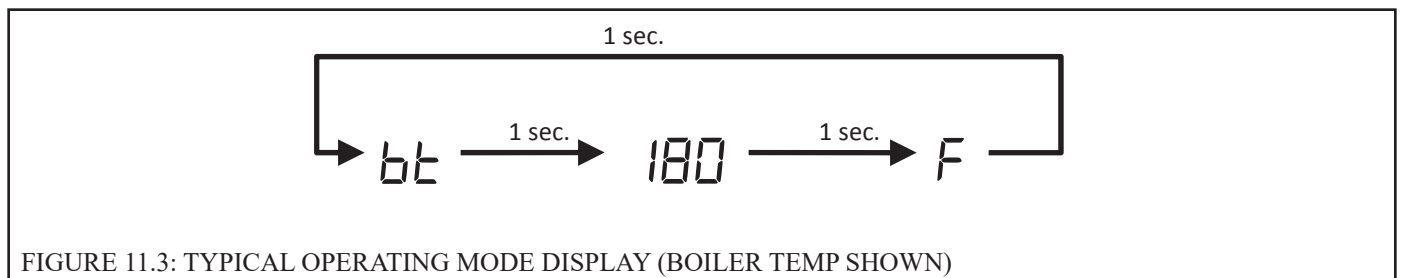

FIGURE 11.3: TYPICAL OPERATING MODE DISPLAY (BOILER TEMP SHOWN)
- 2) Operating Mode - Provides additional information about the current status of the boiler. Operating mode is entered by pressing the **I** button shown in Figure 11.0. When this button is first pressed in Status mode, the display will alternately display bE and the current boiler water temperature as shown in Figure 11.3. Pressing the **I** button again will display the next line item shown in Table 11.2. In the same manner it is possible to advance through all of the “parameters” shown in Table 11.2. To return to Status mode, press **I** repeatedly until $5\text{E}9$ once again appears on the display. Alternatively, the control will return to Status mode if no key is touched for 30 minutes.
NOTE: In operating mode, holding either the \uparrow or \downarrow button while viewing a given parameter will keep the display on the actual reading. For example, pressing \uparrow while reading boiler temperature as shown in Figure 11.3 will keep the display on 180 for as long as this button is held. This makes it easier to view readings “live” if they are changing rapidly.